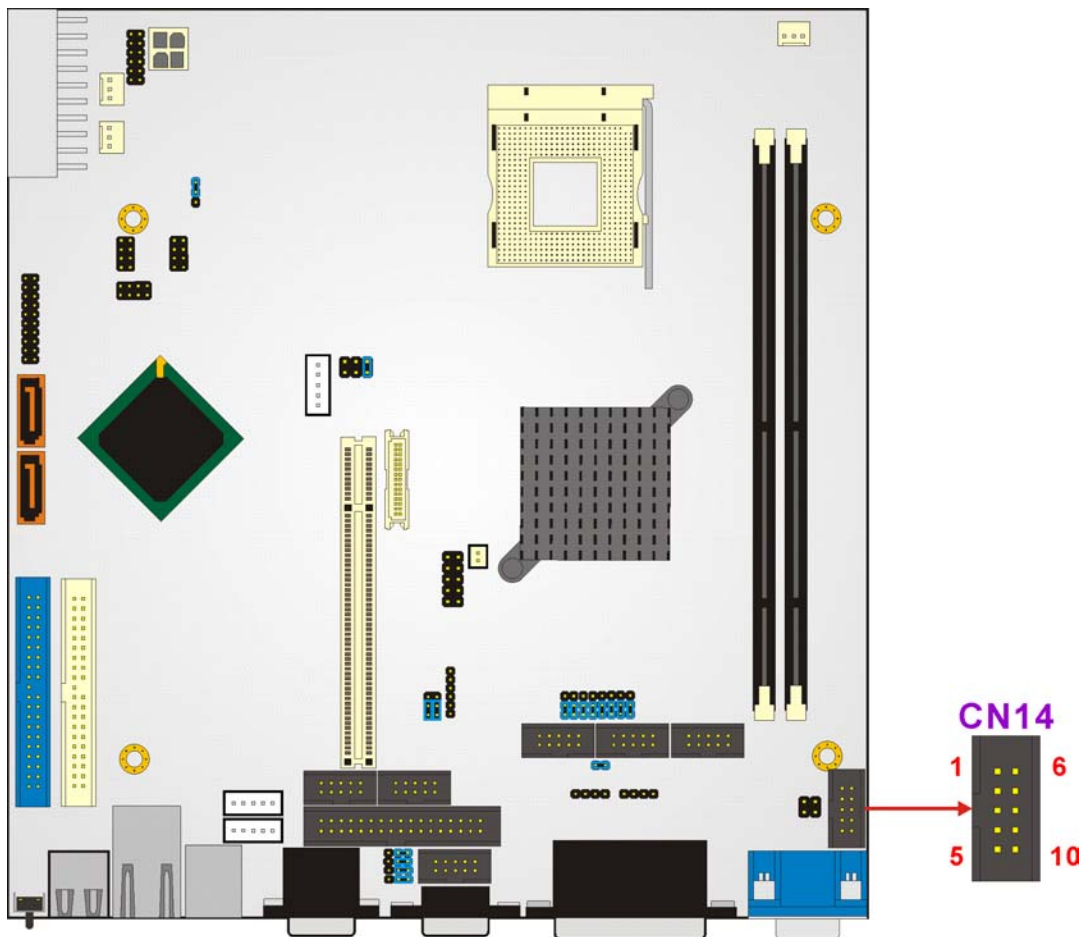

Figure 3-22 VGA Connector Location
- CN Location: See **Figure 3-22**